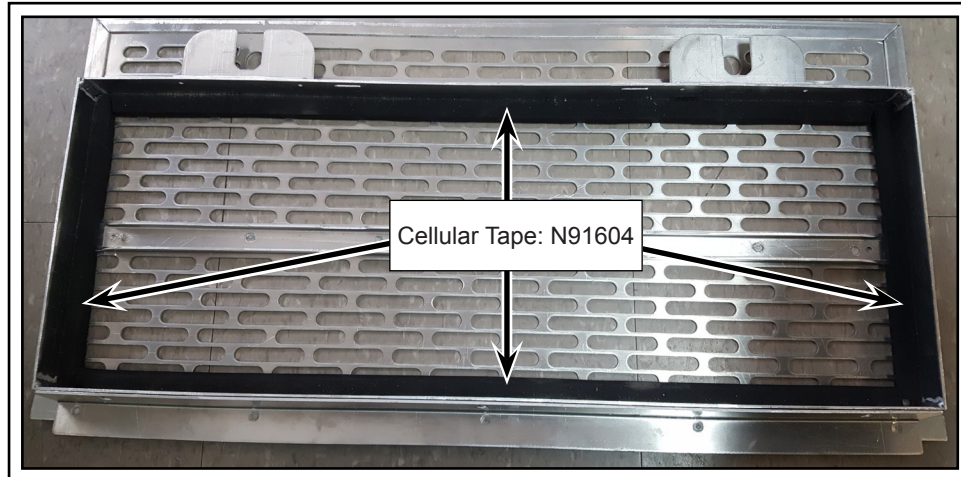
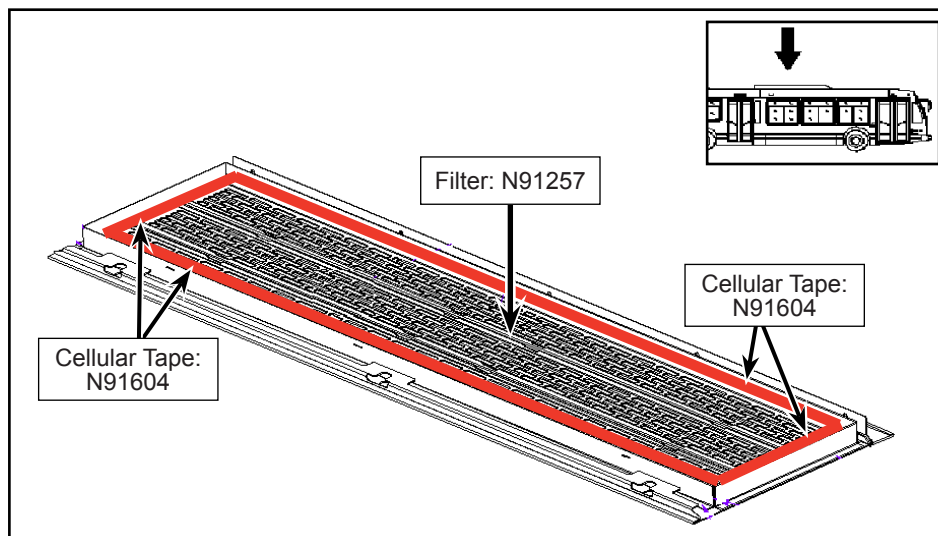

Figure 4 - Installation of Cellular Tape
Figure 5 - Installation of New Rigid Border Filter
- 1.7. Install new indicated cellular tape on the interior perimeter of grill assembly (see Figure 4 and Figure 5) and ensure that there are no gaps left.
- 1.8. Replace the existing filter with the new rigid border filter as shown (see Figure 5).